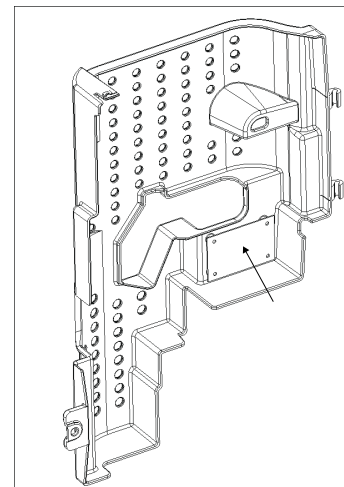

Fig. 5 – Daughter Board Installed in VFD Cover
3. Replace VFD cover with the daughter-board-included VFD Cover (snap in). See Fig. 5. Attach Daughter Board communication cables between the VFD Daughter Board. Daughter Board will be sent with one end plugged into the Daughter Board so only the ODU control board will need to be plugged in.